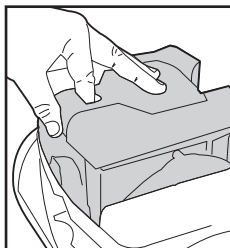

Fig.6/1
3. Remove the pre-motor filter from its position as shown (Fig.6/1).
4. Lift the cover off the cassette by turning anti-clockwise (Fig.6/2).